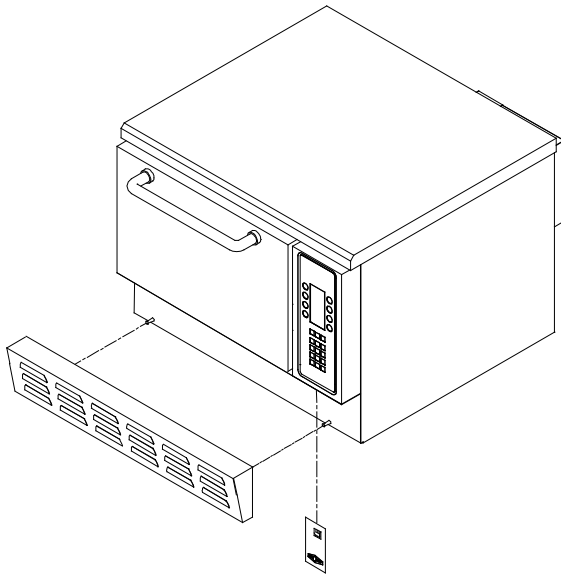

FIGURE 9: Insert Smart Card
3. Remove the lower access panel (Figure 9).
4. Insert smart card into oven (Figure 9).